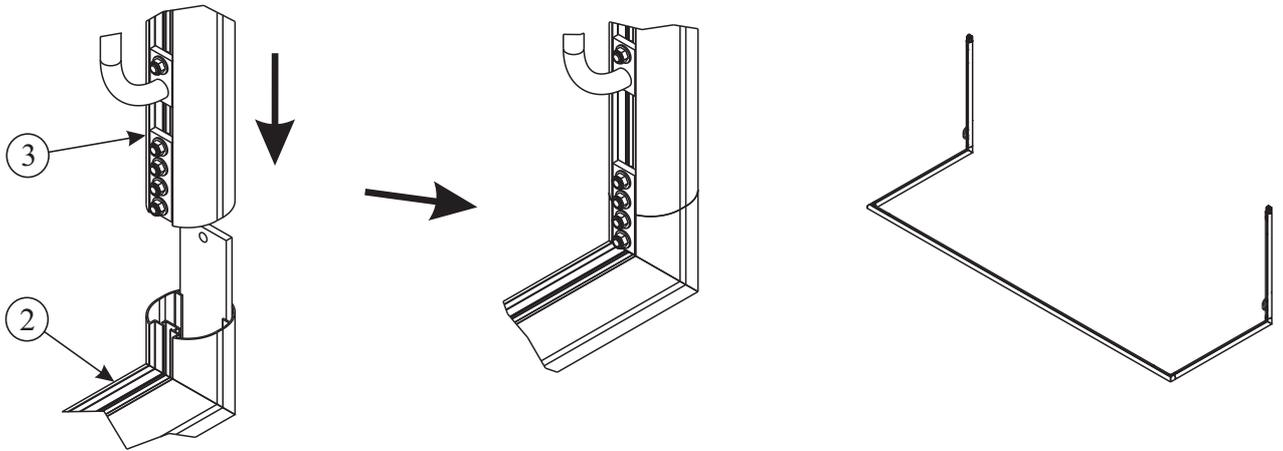

Fig 3 Exploded
**3 Fit Sidebars - Important:** This next step must be done by 2 competent adults. Lift the Side Bar on to the Upright and slide down over the exposed plate as shown in Fig 3. Loosen the tight bolt on the plate and slide the plate assembly over the joint. Tighten all bolts to secure the joint. Keep supporting the Side Bar and carry out step 4&5 before assembling other Side Bar.